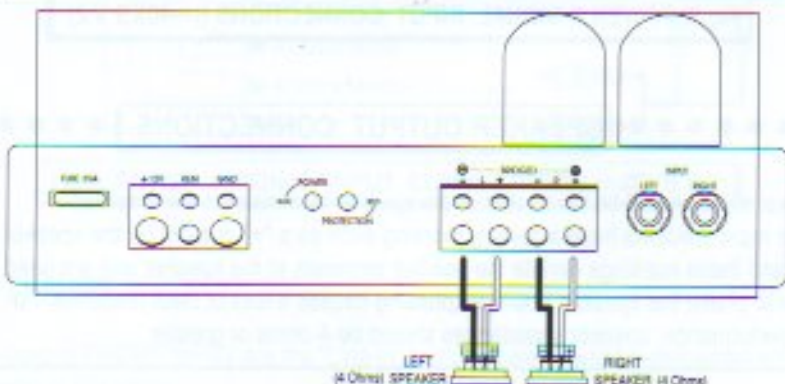

Fig.5. SPEAKER OUTPUT CONNECTION-STEREO MODE (μ -20VS V.2)
- (2) Connect the 2 Speaker in Stereo Mode. (Fig.5.)